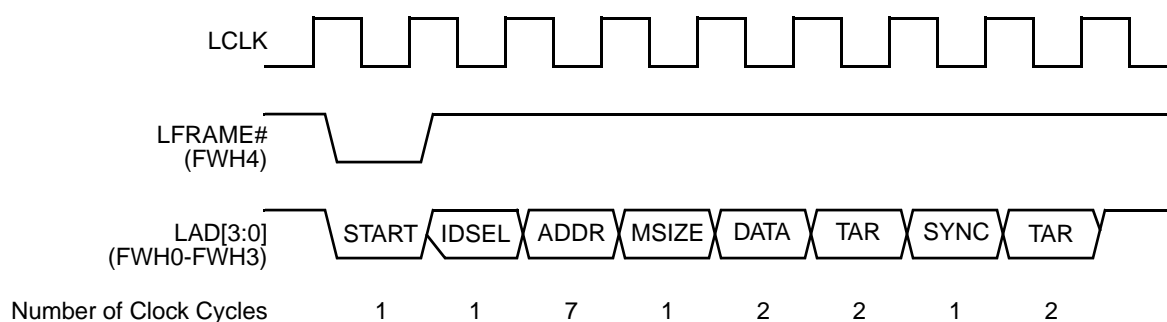

Figure 4-46. FWH Write Cycle
**FWH Write Cycles:** A write cycle is initiated by asserting 1110b on LAD[3:0] with LFRAME# low. All data transfers are valid on the rising edge of the LCLK. The cycle is illustrated in Figure 4-46 and described in Table 4-28.